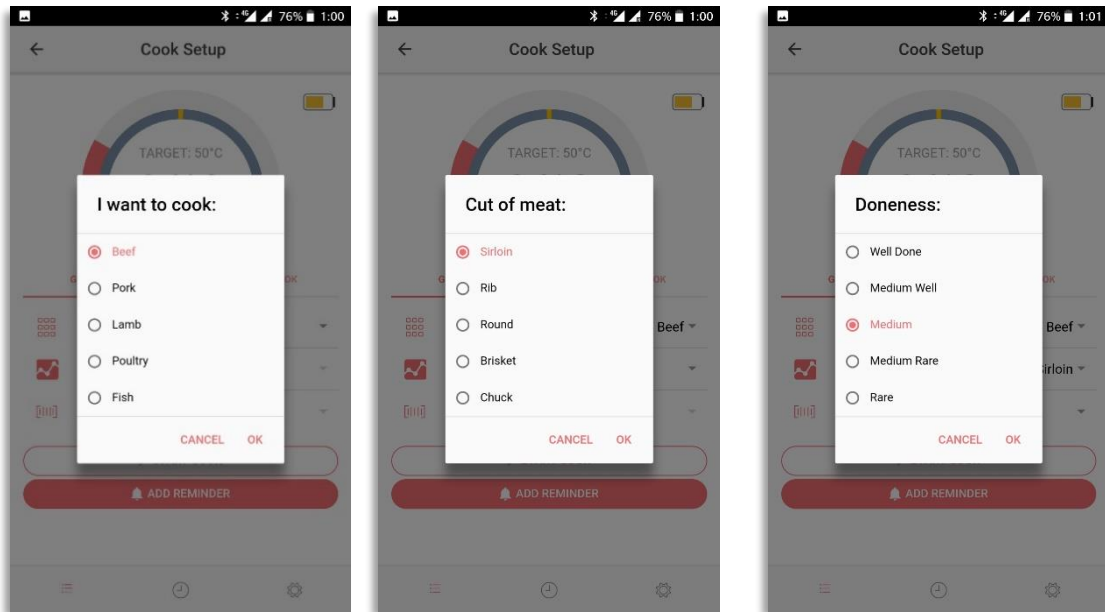

Figure 6. Displays of “Type of Meat”, “Cut of Meat” and “Doneness”
3. Choose type of meat to cook by pressing “I want to cook” once and then select the meat type. (see Figure 6)
4. Choose cut of meat to cook by pressing “Cut of meat” once and then select the cut of meat. (see Figure 6)
5. Choose the doneness by pressing “Doneness” once and then select the desirable doneness. (see Figure 6)